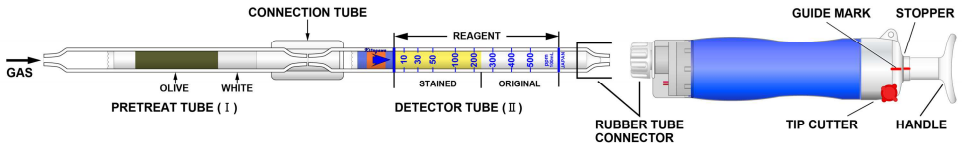

Fig.1
- ① Break both ends of detector tube and pretreat tube, and connect each end of the detector tube and pretreat tube with rubber tube connector as shown in Fig.1.
- ② Insert the detector tube into aspirating pump securely as shown in Fig.1 (Arrow mark shall point to the pump)
- ③ Align the guide marks on the shaft and stopper of the aspirating pump.
- ④ Pull the pump handle at full stroke until it locks and wait for 1.5 minutes or until the completion of sampling is confirmed with the flow indicator of the pump (See descriptions about the flow indicator in the instructions of the pump).
- ⑤ On completion of sampling, read the scale at the maximum point of the stained layer.